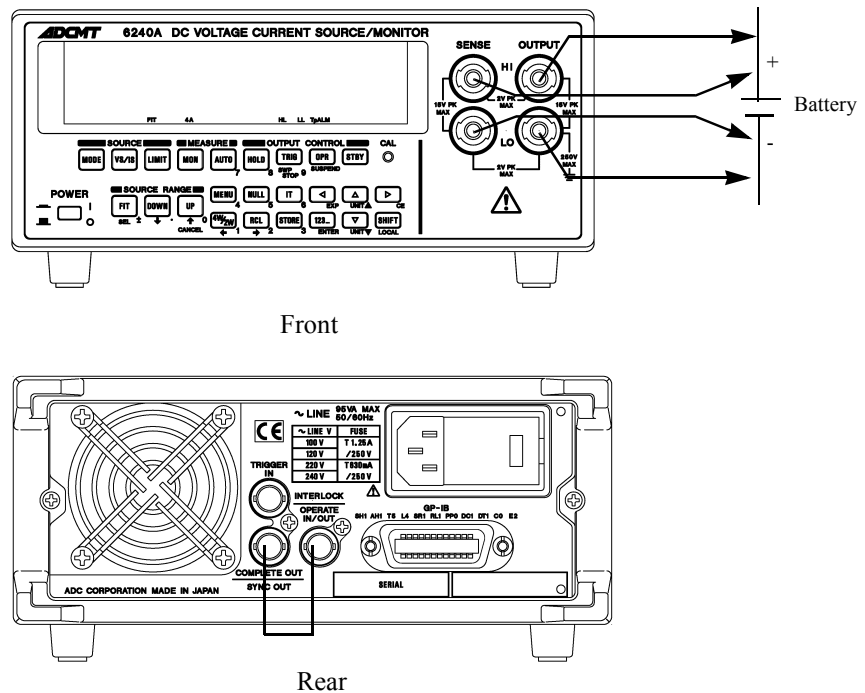

Figure 3-3 Battery Charge Discharge Test Connection
1. Connect by using 4-wire as shown in Figure 3-3 so that the cable does not cause a voltage drop.